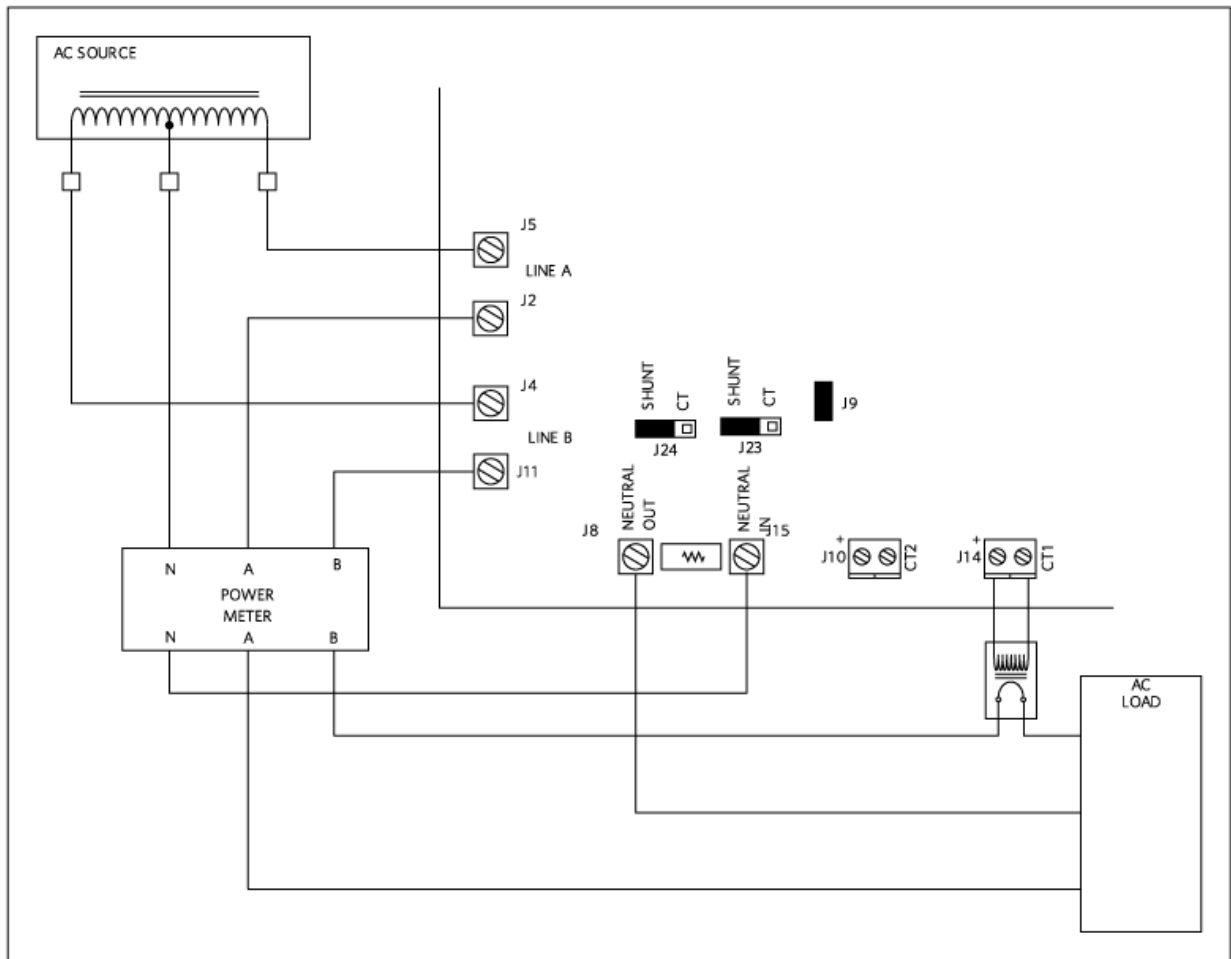

Figure 7. Test setup.
The configuration selected for this example utilizes a current transformer (CT) on one phase and a shunt resistor on the neutral connection, as shown in **Figure 7**.